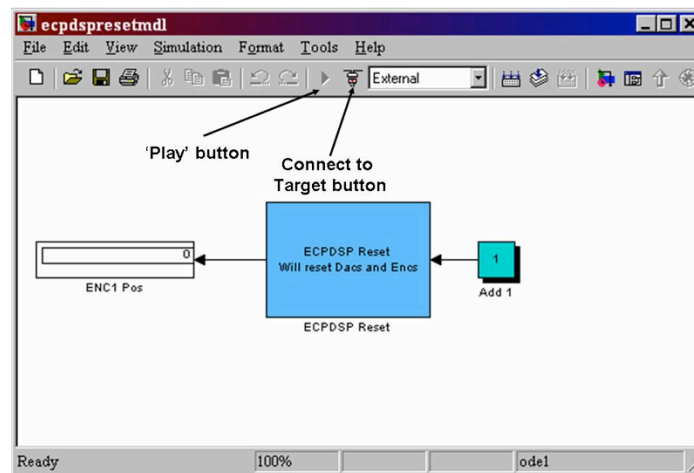

Figure 3: Screenshot of the ‘ecpdsresetmdl’ Simulink window.
1. With the pendulum at rest in the **vertical** position and Cart 1 at least 2 cm right of center, run the file ‘ecpdsresetmdl’. To do this, click the ‘connect to target’ button, wait for the ‘play’ button to turn black, click the ‘play’ button, and then wait about two seconds (see Figure 3). You have just reset the system encoders. This is an important step in getting precise measurements of the pendulum’s angular position and velocity.